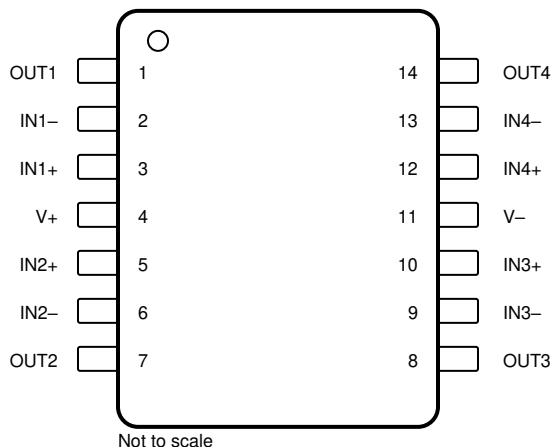

Figure 4-2. Pin Diagram (SOT-23 (14) and SOIC (14) Packages)
4.2 SOT-23 (14) and SOIC (14) Packages
Figure 4-2 shows the TLV9004-Q1 pin diagram for the SOT-23 (14) and SOIC (14) packages. For a detailed description of the device pins please refer to the 'Pin Configuration and Functions' section in the TLV9004-Q1 data sheet.